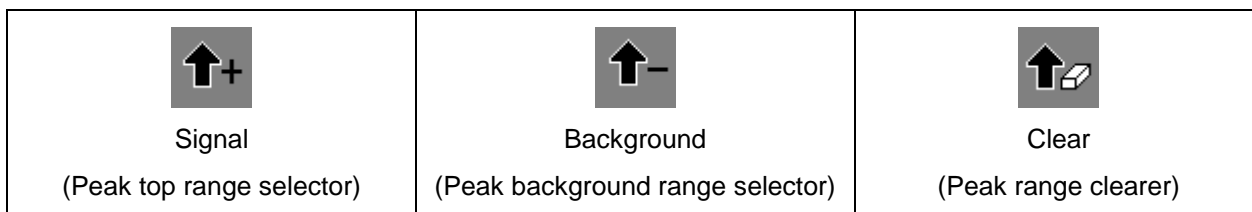

Figure 175 - Mouse pointers for manual subtraction ranges
- c) If **Signal** does not already have a check mark next to it, click it and note that the mouse pointer appears as a thick black up-arrow with a black plus symbol (+) to its right (**Figure 175 - Mouse pointers for manual subtraction ranges**).
- e) Right click in the *Chromatogram Display* to activate the context menu and click **Background**. Note that the mouse pointer now appears as a thick black up-arrow with a black minus (-) symbol to its right (**Figure 175 - Mouse pointers for manual subtraction ranges**).
- g) If you want to modify any of the selected ranges (peak top or background), right click in the *Chromatogram Display* to activate the context menu and click **Clear**. Note that the mouse pointer now appears as a thick black up-arrow with a white eraser icon to its right (Figure 175 - Mouse pointers for manual subtraction ranges).